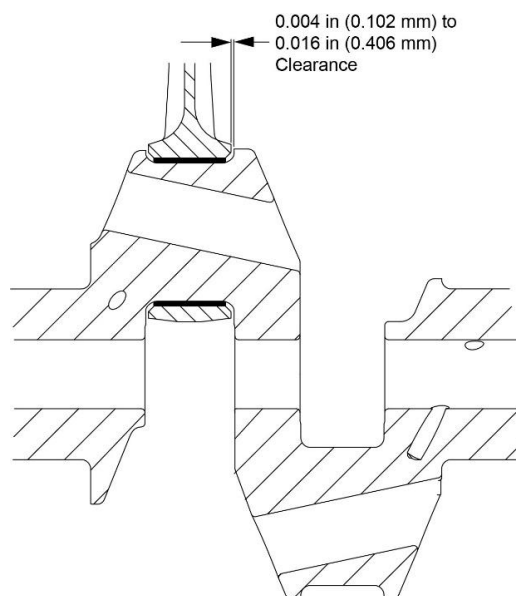

Figure 15
13. Measure the side clearance between the connecting rod and crankshaft with a feeler gage where shown in Figure 15. The clearance is to be 0.004 to 0.016 in (0.102 to 0.406 mm).